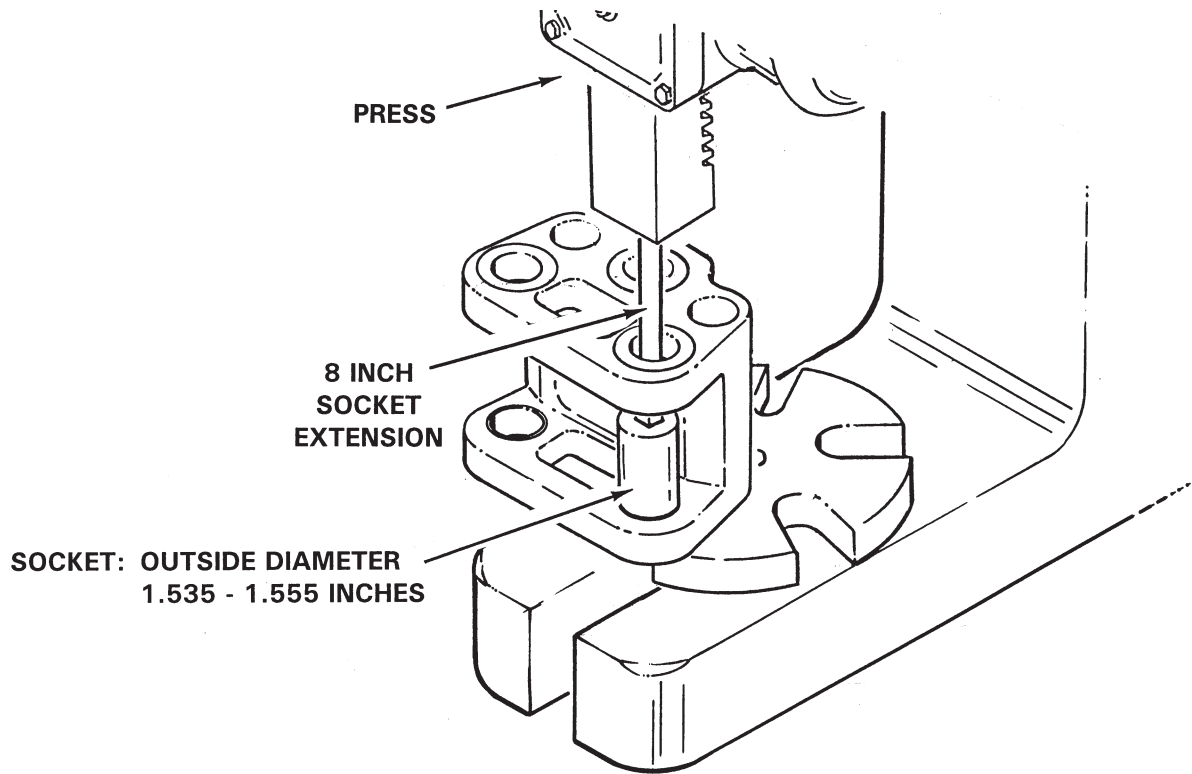

FIGURE 62-5 MAIN ROTOR HUB BEARING REMOVAL
4. Refer to Figure 62-5. Press old bearing(s) out of hub using a socket having an outer diameter of 1.535-1.555 inches and an 8 inch extension.